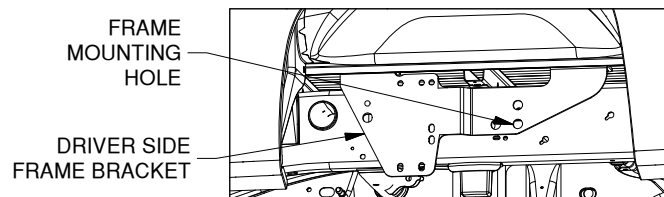

Figure A3: View looking into driver side wheel well.
3. **Check hole locations:** Using the frame brackets, align each bracket to the side of the frame where the brackets will be installed, see figures A3 & A4. Check that the 1/8" holes are centered within the slots in the frame brackets. If the 1/8" drilled holes are not centered re-drill the 1/8" holes until the brackets and the drilled holes are aligned.